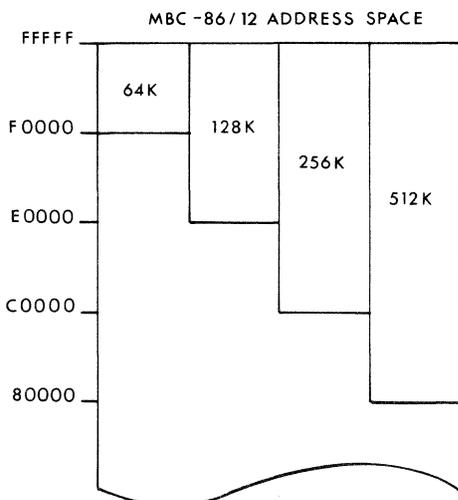

Figure 2. ROM address allocation
**Addressing** — MBC-86/12 allocates the top of its memory space for read-only memory (figure 2). Hardware straps, on the ROM-86 board, are provided to establish the amount of address space required as being 64K, 128K, 256K, or 512K bytes depending on the type of EPROMs being used. EPROM memory on the ROM-86 interfaces directly into the MBC-86/12 address and data bus and can only be accessed by the 8086 CPU resident on the MBC-86/12 board